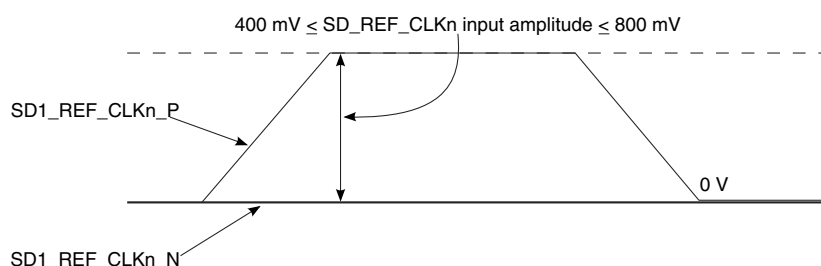

Figure 36. Single-ended reference clock input DC requirements
- The SD1_REF_CLKn_P input average voltage must be between 200 and 400 mV. Figure 36 shows the SerDes reference clock input requirement for single-ended signaling mode.